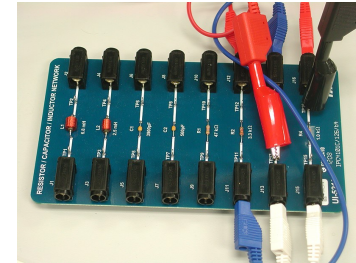

Fig. 5: V across 2nd 1 kΩ
6. Move the red alligator to TP 13 and the black alligator to TP 16 as shown in Figure 5. Note that TP 13 and TP 15 are essentially the same point in the circuit since both are connected to the black Output 1 terminal by a wire (and a 0.1 W resistor).